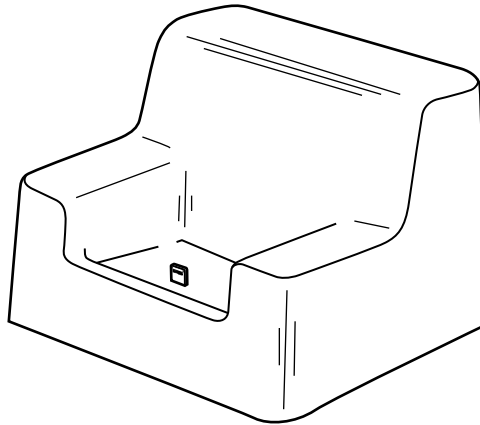

Fig. 3
- 5 Fig. 3 shows a charging station for a cordless telephone. The charging station is mass produced in a plastics material.
(d) Describe how modern technologies could be used to produce a prototype of the charging station shown in Fig. 3.